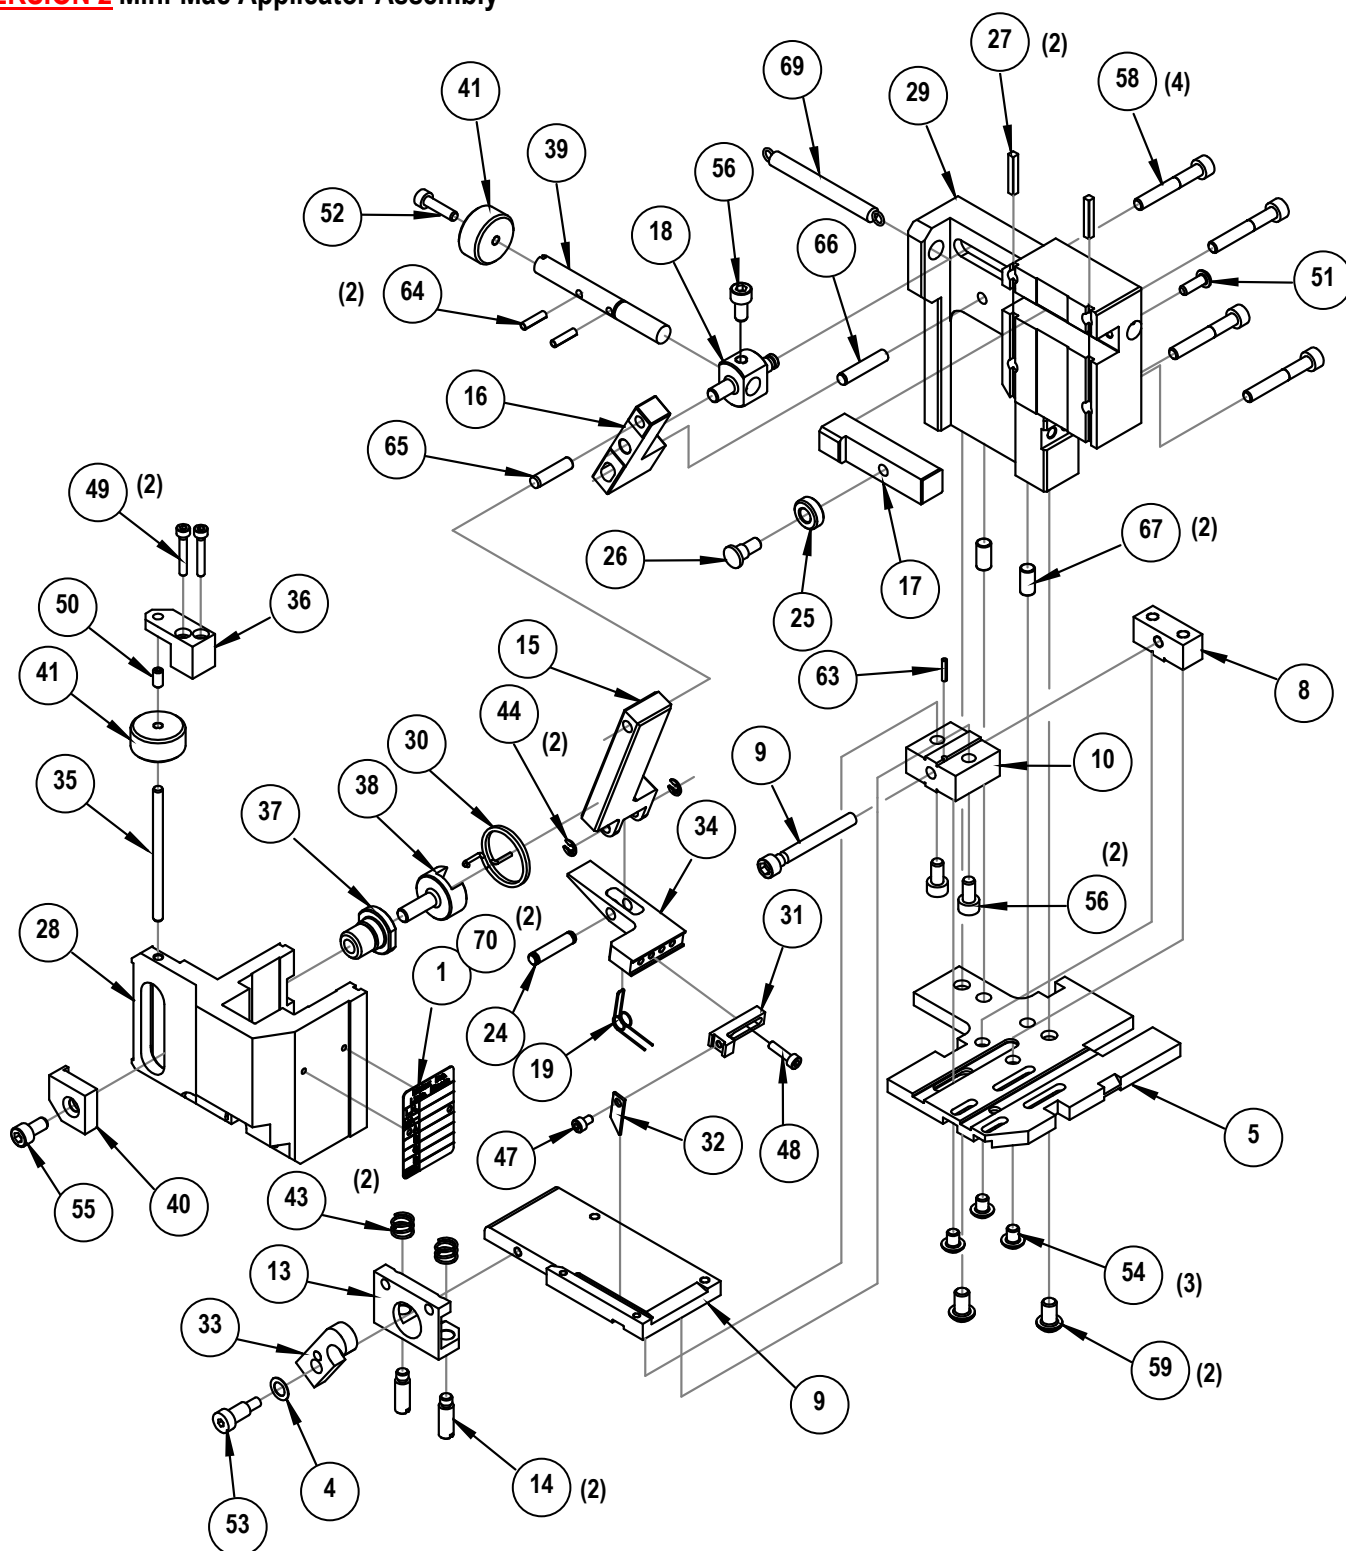

Figure 4-1A
**VERSION 2** Parts List and Assembly Drawings (See Figure 4-1A and 4-2A)